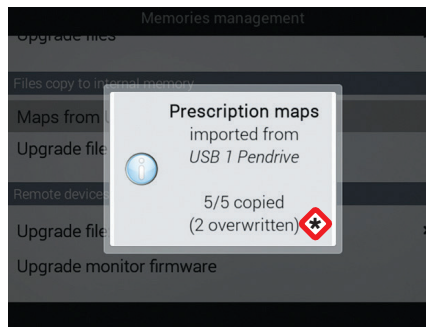

Fig. 292
- A confirmation message (Fig. 292) is displayed once the process is completed. Press **ESC**.